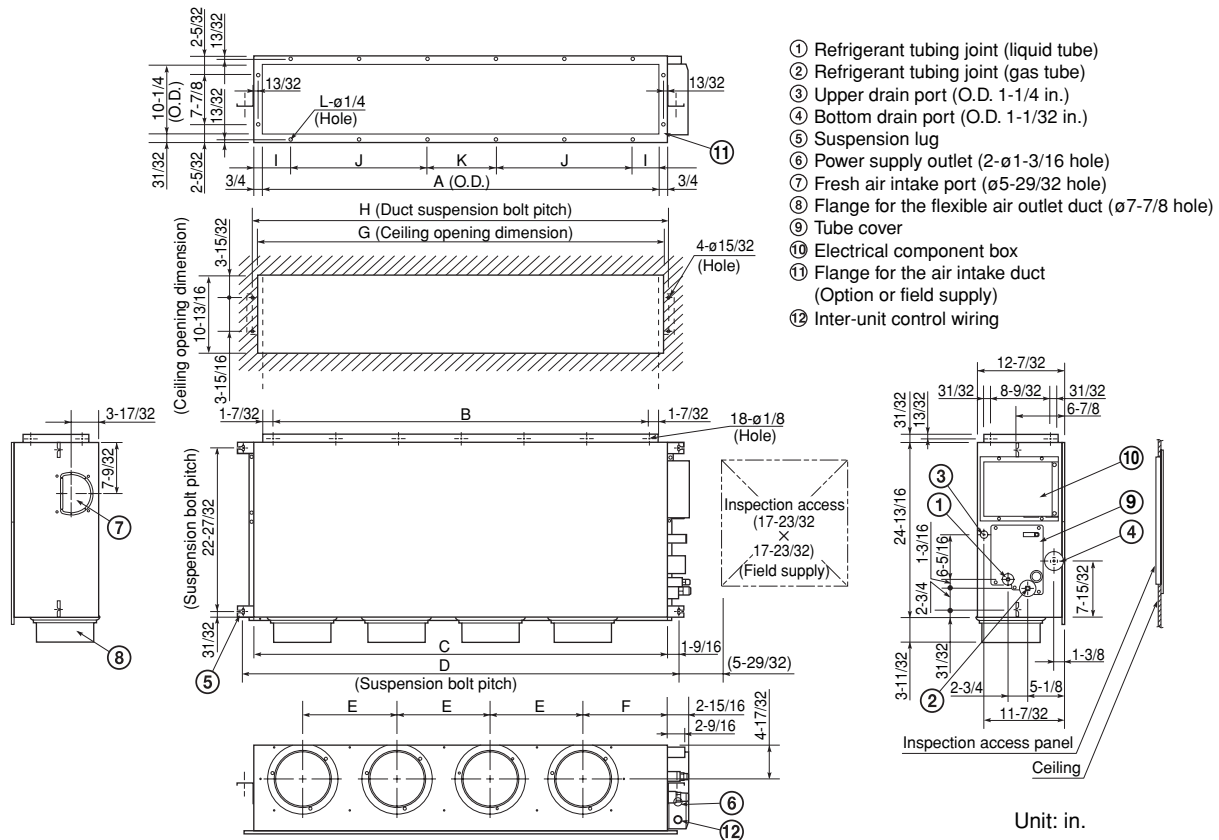

Fig. 3-62
- Fig. 3-62 and Table 3-4 show the detailed dimensions of the indoor unit.